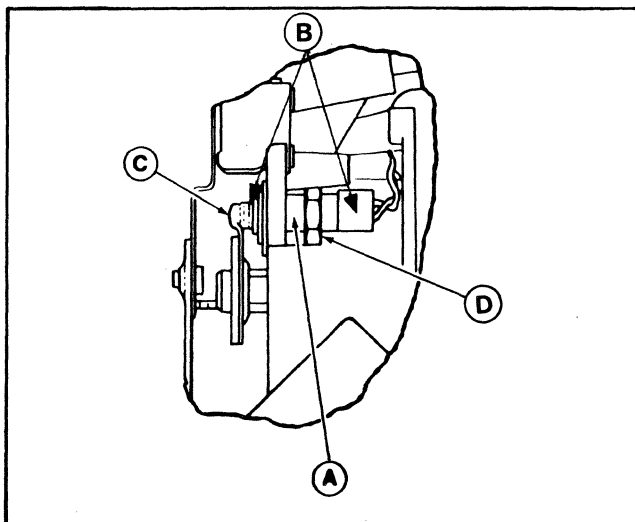

Figure 3-14. Printwheel Home Adjustment
- (5) Printwheel Home Adjustment (Figure 3-14). Tilt the printwheel motor forward, away from the platen, and remove the alignment tool. Install a printwheel and initiate a RESTORE sequence. The printwheel logic includes a safety feature called "retry." This feature helps, during the RESTORE sequence, to ensure that the printer microprocessor has the right count in its absolute counter for printwheel position. The printwheel is allowed to stop only at those points where the signal +PW EVEN is high, which occurs only once per printwheel position, or "petal" position. If the printwheel fails to
- (a) Use a 7/16" open end wrench to adjust the home sensor eccentric (A) as follows: move the eccentric slightly, in either direction, and RESTORE the printer. Continue adjusting the eccentric in that direction, a little at a time, until the printwheel spins (8 revolutions) and the printer goes into its CHECK mode. Note this eccentric position.
- (d) If the printwheel spins continuously (8 revolutions), the sensor (B) may be located too far from the printwheel home sensor flag (C). Loosen nut (D) and rotate the sensor clockwise until the printwheel stops on the first revolution. Use a plastic shim to verify .003" to .007" (.08-.18mm) clearance between the surface of the sensor and the edge of the flag. Retighten nut (D).
- (e) The electrical signal out of the sensor should be at least .4 volts peak. Figure 3-14 illustrates this signal, as seen at the input to the Printwheel Home Sensor amplifier on the SERVO board.
(2) Alignment Check